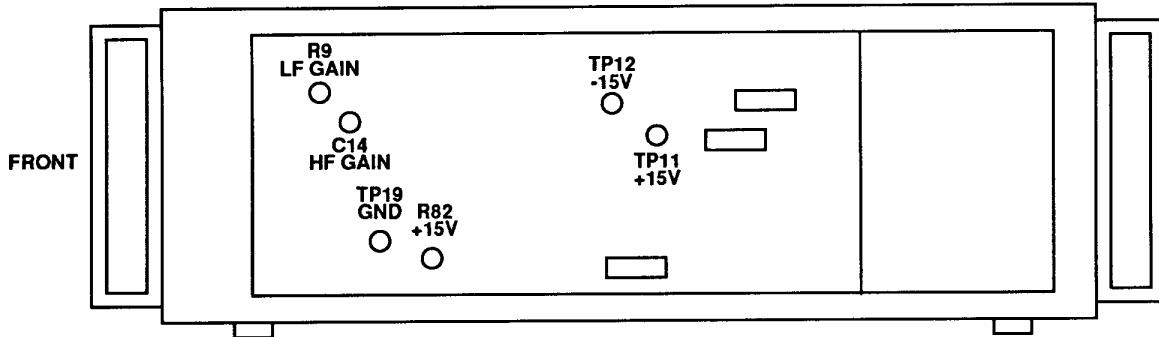

Figure 3. Precision power amplifier, Fluke, Model 5215A - adjustment locations.
(1) Adjust R9, LF GAIN (fig. 3) for TI measured output of 500 Vac (R).
(2) Adjust C14, HF GAIN (fig. 3) for TI measured output of 500 Vac (R).
- (1) Adjust R9, LF GAIN (fig. 3) for best null indication on multimeter (R).
- (2) Adjust C14, HF GAIN (fig. 3) for best null indication on multimeter (R).
(1) Connect multimeter between TP11 +15V and TP 19 GRD (fig. 3). If multimeter does not indicate between 14.95 and 15.05 V, perform **b** below.
(2) Connect multimeter between TP 12 - 15 V and TP 19 GND (fig. 3). Multimeter will indicate between -14.65 and -15.35 V.
b. Adjustments. Adjust R82 +15V (fig. 3) for a multimeter indication between +14.95 and 15.05 V dc (R).